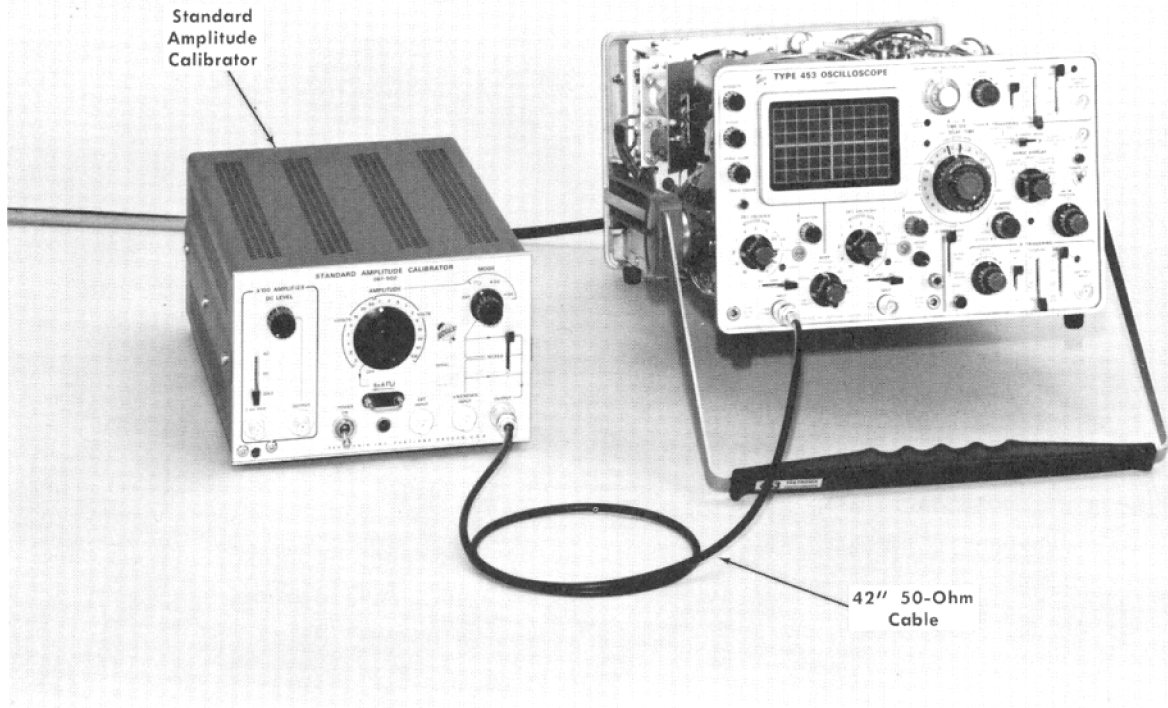

Fig. 6-54. Initial test equipment setup for steps 55 through 59.
- Test setup is shown in Fig. 6-54.